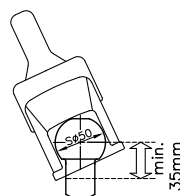

Fig. 1: Towing vehicle ball rod
1.3 WS 3000 ball couplings can only be used with coupling balls pursuant to DIN 74058 / ISO 1103 if the ball neck is **free from fittings over a distance of 35 mm** (Fig.1) (instead of 32 mm pursuant to DIN 74058 / ISO 1103).